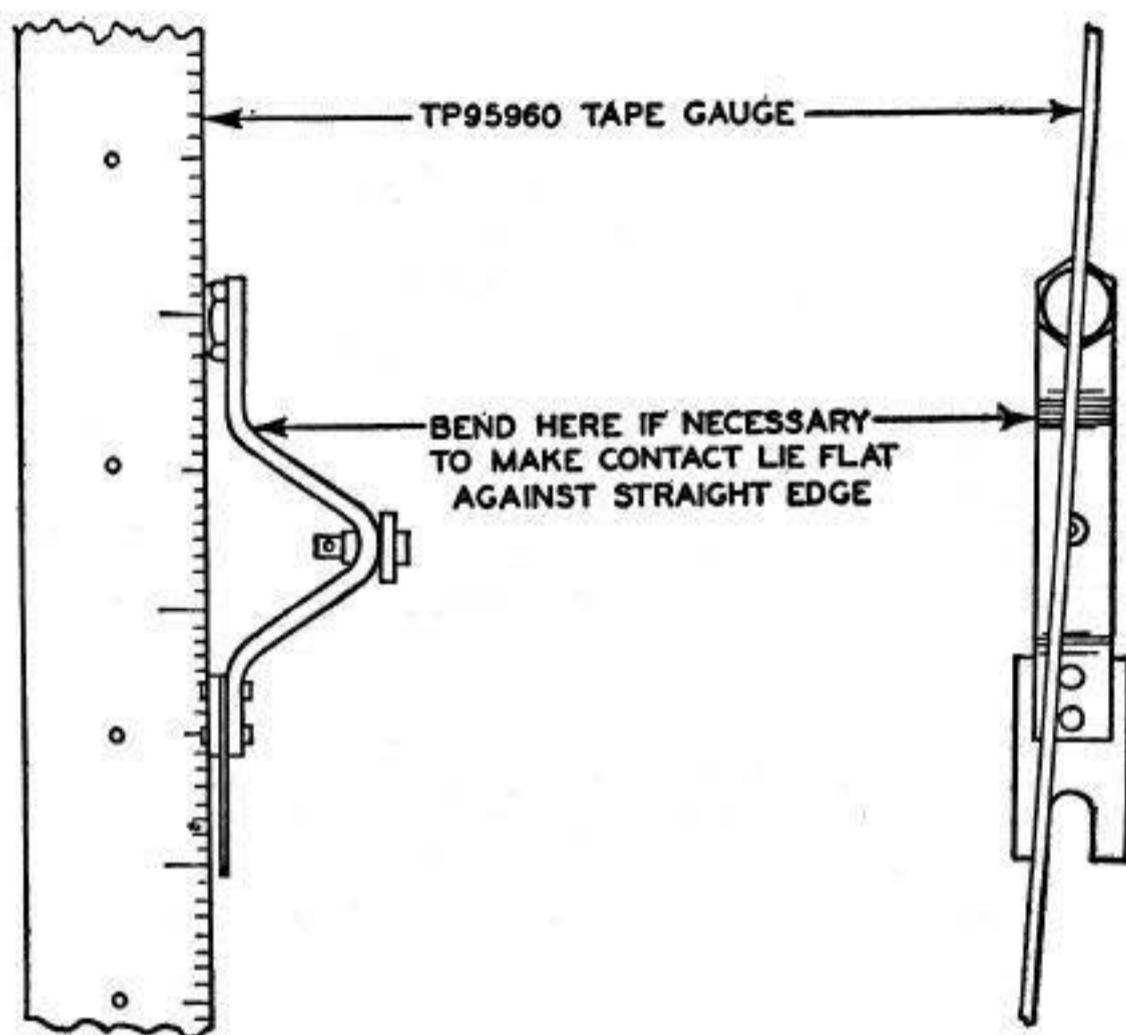

Fig. 7
(5) If the contact faces cannot be made parallel by either of the two options given above, remove the contact spring and check with the TP95960 tape gauge used as a straightedge as shown in Fig. 7. When necessary, bend the contact spring at the first bend from the contact. Recheck 4.04 (b) (2). **Fig. 7**